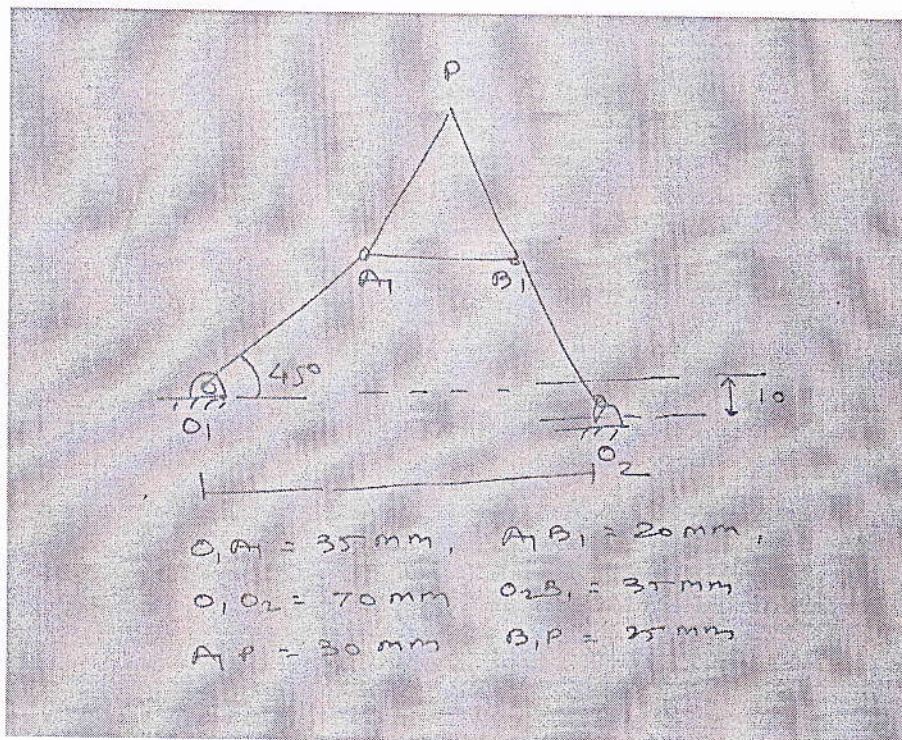

Fig. 3
- a) Design cognates of the coupler curve obtained by point P for the given mechanism. Ref Fig.3 20 L₅ CO5